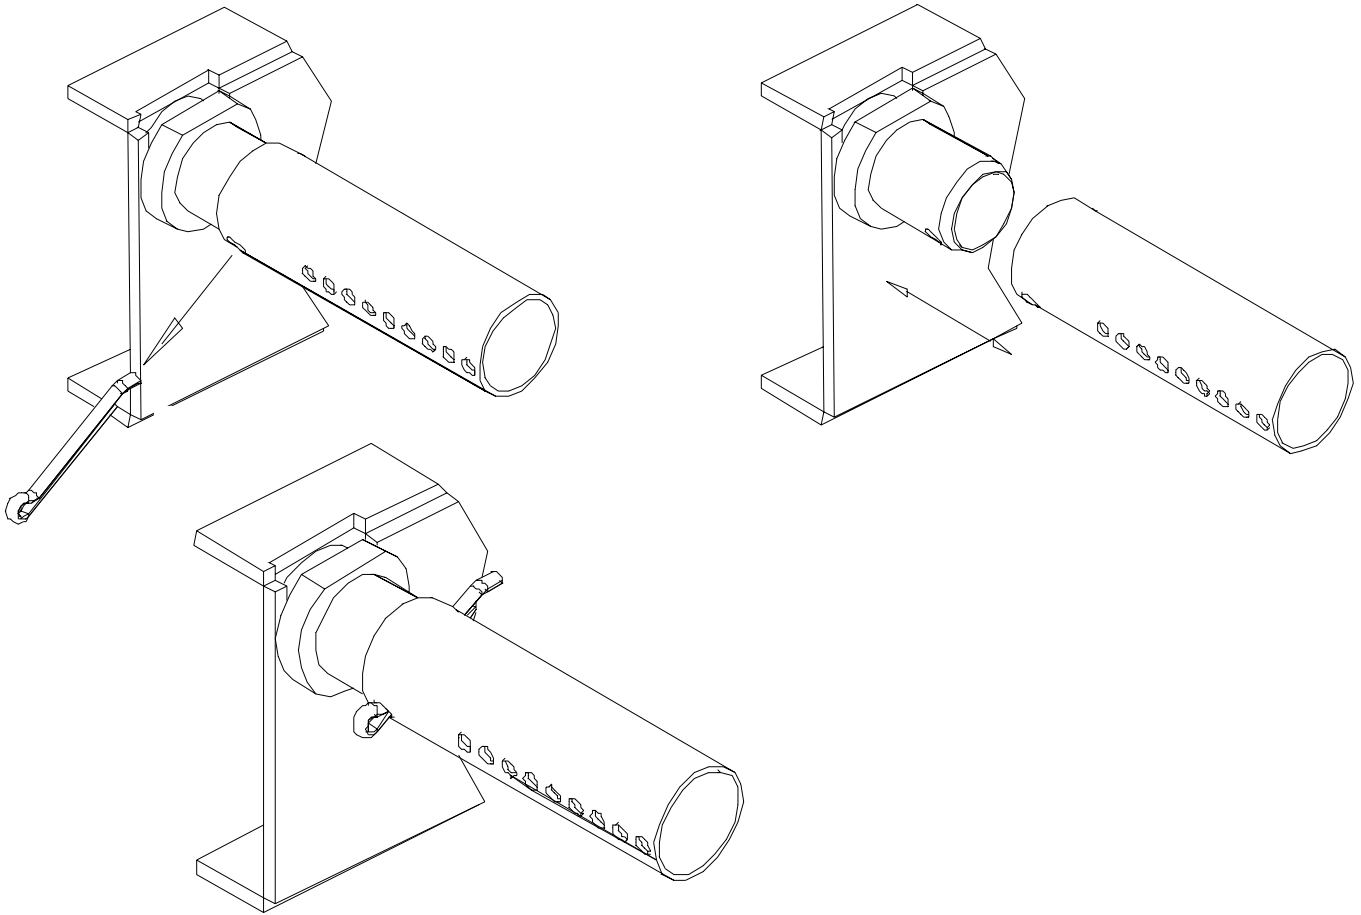

Figure 3.4 – Secondary Air Tube replacement
- Install the middle and rear secondary air tubes ensuring air hole face forward. Install the cotter pins as in fig 3.4.
(See Figure 3.4)